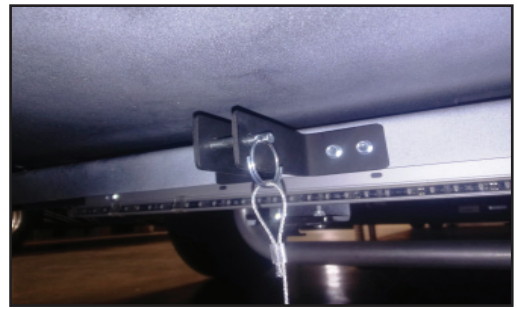

Figure 17
17. Using the holes drilled in the previous step, attach both brackets to the frame with four #10 HWH self-tapping screws. The brackets should be installed according to the orientation shown in Figure 17.
18. Insert the pin, included in the repair kit, to verify it fits correctly. See Figure 17.